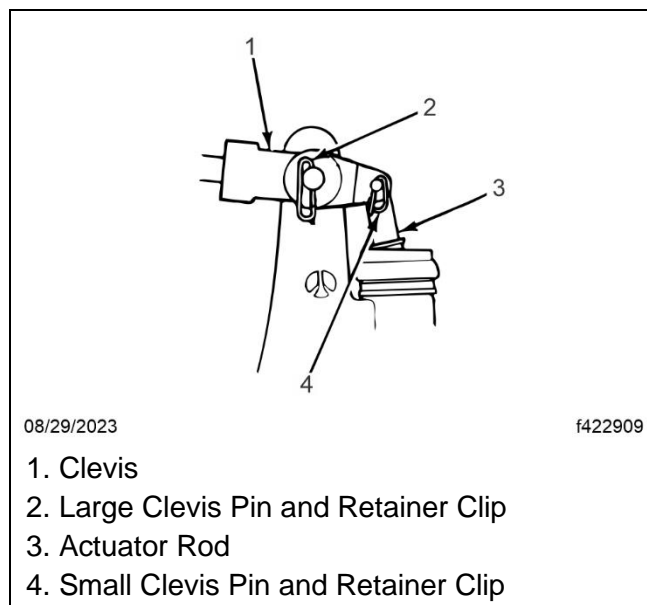

Fig. 6, Clevis Pin Installation
12. Insert the large clevis pin through the clevis and adjuster arm with the pinhead on the inboard (vehicle centerline) side of the automatic slack adjuster. Insert the large clevis pin retainer clip. See Fig. 6.
13. Align the hole in the automatic slack adjuster actuator rod with the hole in the clevis. Insert the small clevis pin through the clevis and the actuator rod with the pinhead on the inboard (vehicle centerline) side of the automatic slack adjuster. Insert the small pin retainer clip. See Fig. 6.